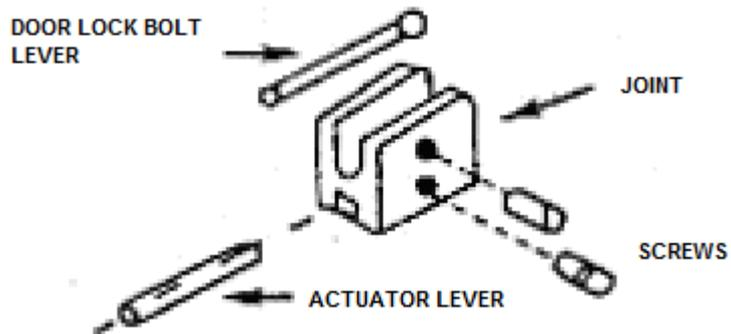

Figure 3. Connecting levers with joint
4. Using suitable joint connect door lock bolt lever to actuator lever. Tighten joint screws making sure that actuator can move easily. See figure 3 and 4.